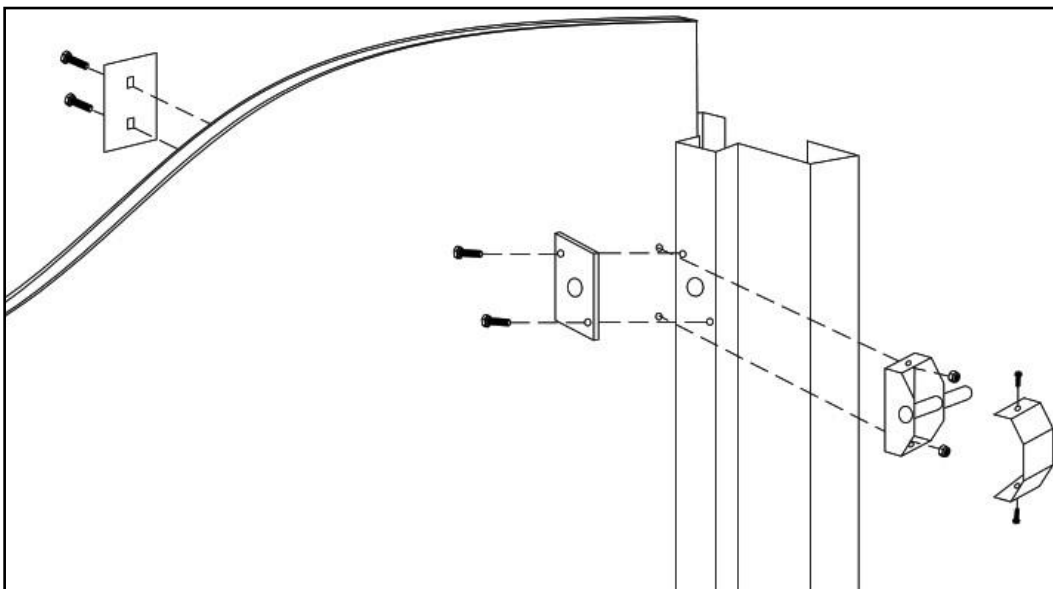

FIGURE 7 (Hollow metal application shown)
Drill two (2) holes in the door all the way through, making sure they are level. Then drill a small pilot hole on the mark in the door jamb stop. Then drill a 9/16" hole using the pilot hole in the door jamb stop. From the outside of the door, install the deadbolt mounting plate using two (2) supplied 1/4" carriage bolts by pushing through the plate and door. Install deadbolt on 1/4" carriage bolts on the inside and secure with locknuts (See Figure 7).